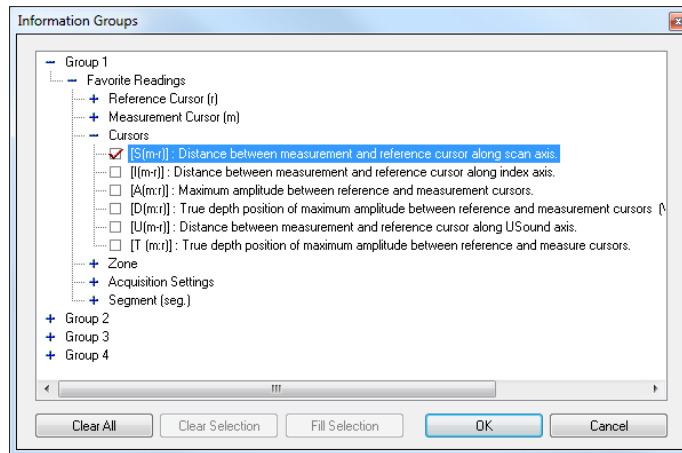

Figure 10-12 The Information Groups dialog box with available readings for the Excel Exchanges
5. In the **Information Groups** dialog box, select the field you want to export [U(r) and S(m-r) in the case of this example], and then click **OK** (see Figure 10-12 on page 456).